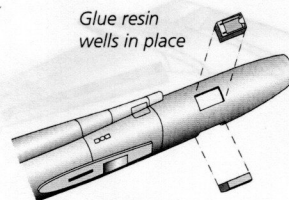
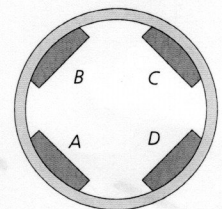

Figure 6
Figure 7
- Glue the resin wells in place from the inside of the fuselage. We designed the well to very slightly protrude above the fuselage skin; when your superglue has cured, carefully file and sand the excess to exactly match the fuselage contours. See Figures 6, 7, 8 & 9. Their detailing is slightly different; use Figure 7 for exact orientation. On the other hand, don't worry too much if you get them out of order as they are all the same size and will work in any position.